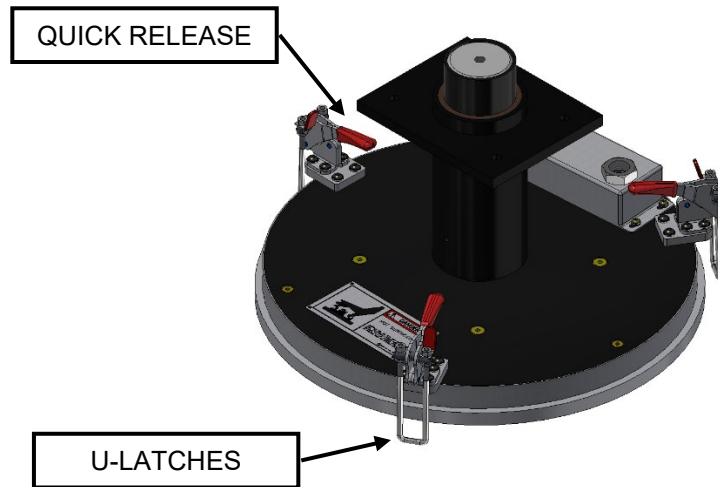

Figure 9: Quick Release
7. Lift the 3 red handles of the clamps (Figure 9)
8. Remove the U-Latches from the bolts on the die plate (Figure 9, U-Latches).